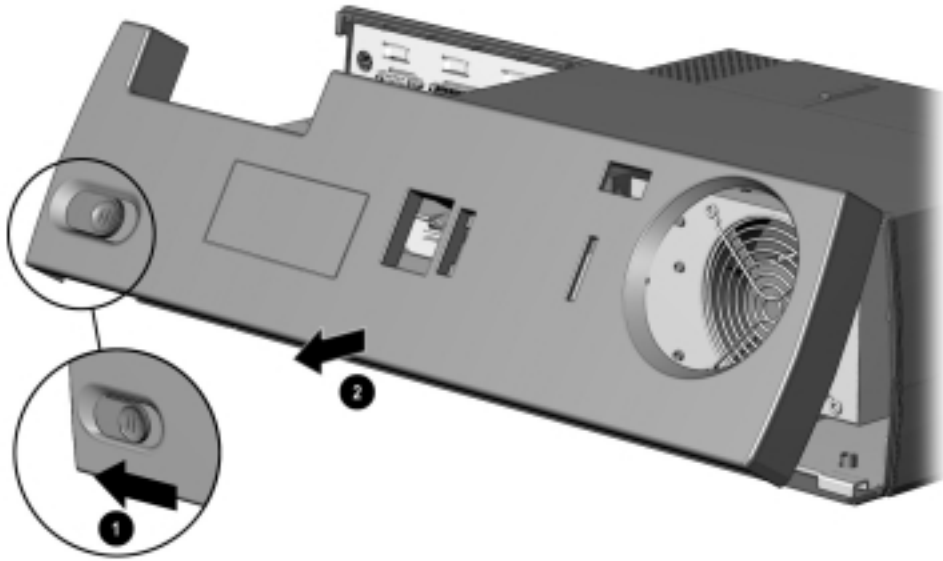

Figure 5-7. Removing the Rear Bezel
3. Slide the rear bezel release latch to the left ❶ (Figure 5-7).
4. Swing the bottom edge of the rear bezel forward and up until it disengages ❷.